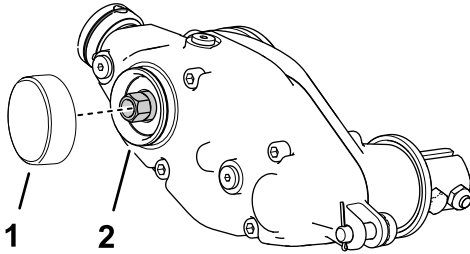

Figure 9
1. Apply medium-strength, cylindrical-bonding retaining compound (such as Green Loctite 609®) around the snap ring groove and the outer diameter surface (Figure 9).
2. Install the cap as shown in Figure 9.